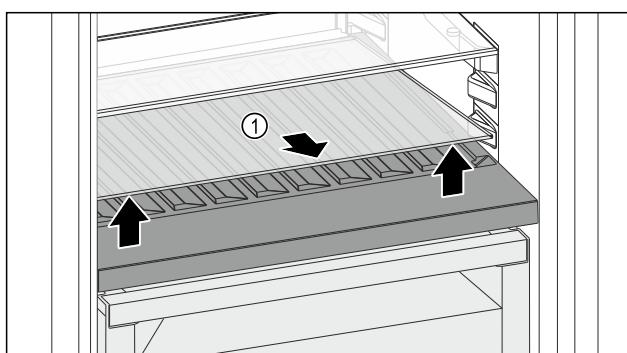

Fig. 86
- ▶ Lift the glass shelf Fig. 86 (1) at the front and remove.
- ▶ Store the glass shelf Fig. 86 (1) in a safe place outside the appliance.